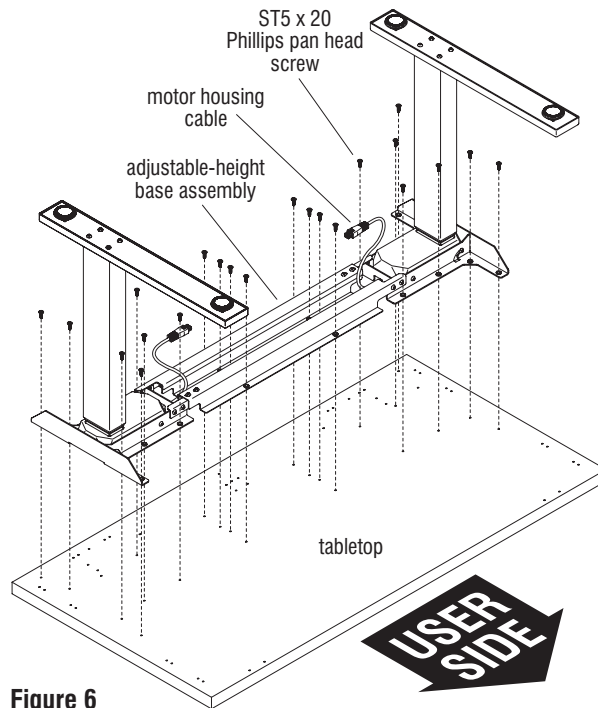

Figure 6
10. Carefully place the tabletop upside down on a soft, protective surface. Take note that the "user side" of the tabletop has a pair of pilot holes for the hand switch near the front edge on both sides (Figure 6).
Note: If the table being assembled contains C-legs, when placing the adjustable-height base assembly onto the tabletop, make sure the feet on the leg columns are oriented correctly toward the user side, as illustrated in Figure 6.
11. Carefully position the adjustable-height base assembly onto the tabletop, taking care so the stringers do not get placed on top of the motor housing cables. Align the mounting holes on the leg frame brackets and stringers with the mounting holes on the tabletop and secure using twenty-four ST5 x 20 Phillips pan head wood screws (Figure 6).